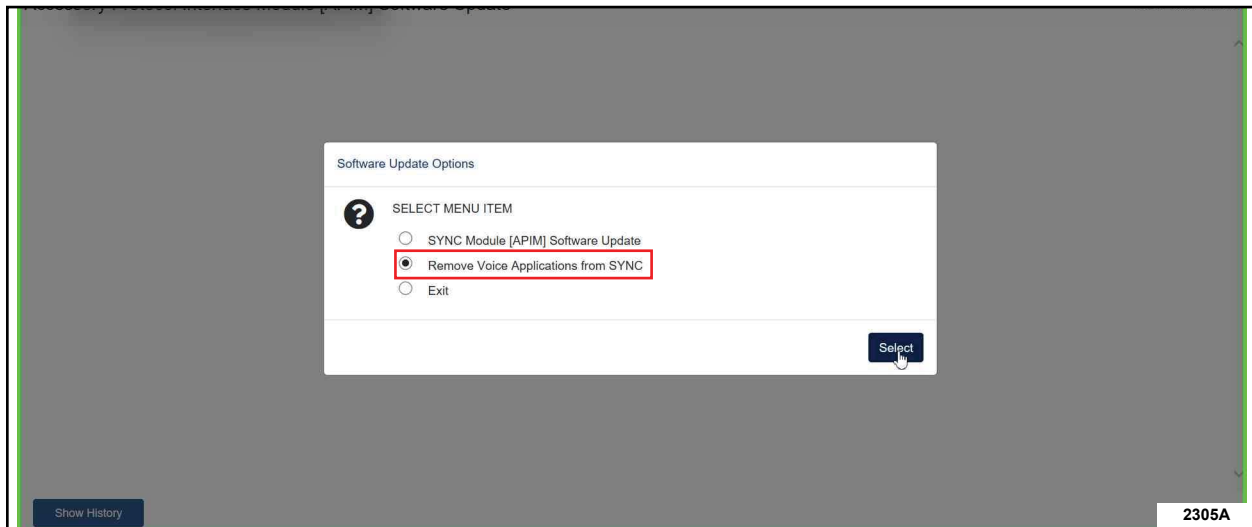

FIGURE 3
32. When prompted for Software Update Option, click "Remove Voice application from module", then click Select. See Figure 3.